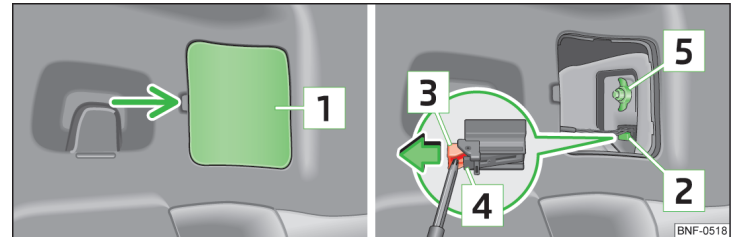

Fig. 134 Removing the tail lamp assembly
- Pry off cover **1** » Fig. 134 in the arrow area.
- › Unscrew the plastic nut **5** » Fig. 134 and tighten.